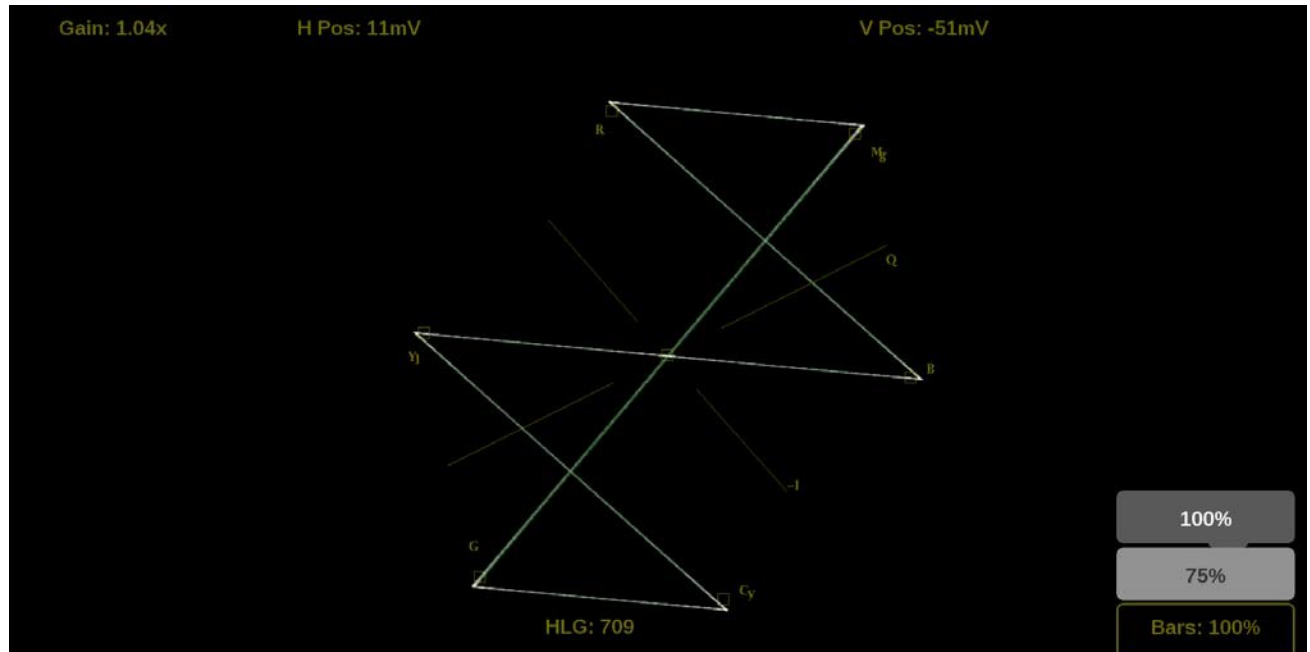

Figure 102: Vector on-screen tools – Bar Targets
1. Select the **Bars** button in the bottom right corner of the application to expand the available options. (See Figure 102.)